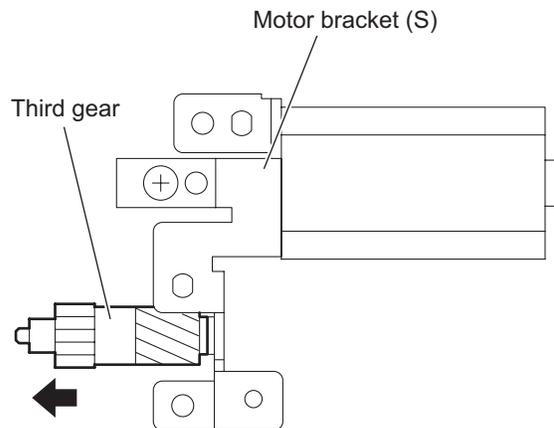

Fig.8
- Pull the third gear out of the motor bracket (S) in the direction of the arrow. (See Fig.8.)